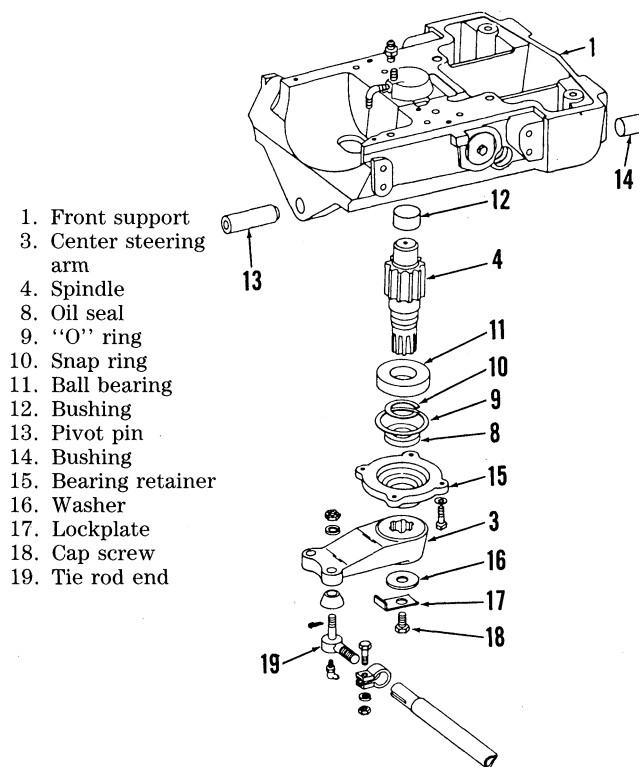
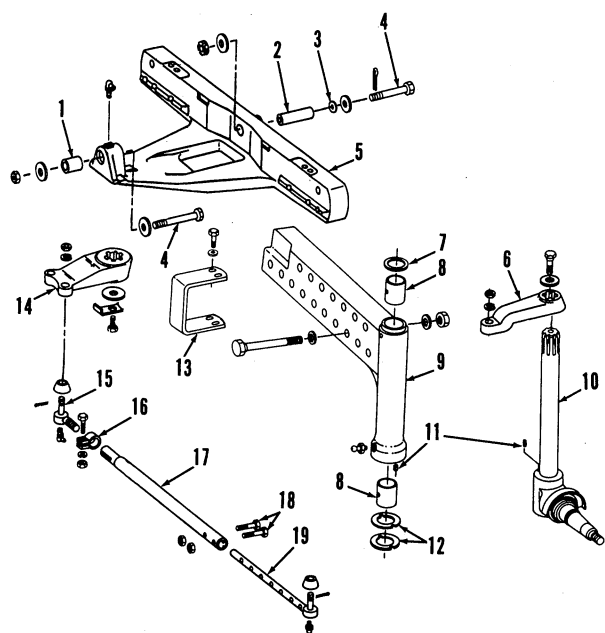

Fig.1—Partially exploded view of front axle support assembly used on 4050, 4250 and 4450 tractors. Support assembly used on 4650 and 4850 tractors is similar.
Fig. 2—Exploded view of adjustable tread front axle assembly.
1. AXLE HOUSING AND PIVOT BRACKET. The front axle attaches to the front support (1—Fig. 1). Clearance between axle pivot pins (13—Fig. 1 and 2—Fig. 2) and bushings (14—Fig. 1 and 1—Fig. 2) should not exceed 0.080 inch (2 mm).
Install front pivot pin flush with rear edge of pin bore in axle. Install shims (3—Fig. 2) on axle front pivot bolt to provide a minimum amount of clearance between front axle and support. Maximum allowable clearance is 0.015 inch (0.38 mm). Tighten nuts on pivot bolts to 220 ft.-lbs. (298 N·m). Tighten tie rod end retaining nuts to 100 ft.-lbs. (136 N·m). Lubricate pivot pins and bushings with multipurpose grease.
2. SPINDLES AND BUSHINGS. The steering arms (6—Fig. 2) are splined to spindles (10) and re-
3. TIE RODS AND TOE-IN. The tie rod outer ends (19—Fig. 2) are adjustable with several holes provided for changing axle width. Tie rod inner ends (15) are threaded to provide adjustment for toe-in. To adjust toe-in, remove bolts (18) and loosen clamp (16). Rotate tie rod tubes (17) to provide 1/8-3/8 inch (3-9 mm) toe-in. Be sure to adjust both tie rods to equal lengths. Tighten clamps and bolts to 35 ft.-lbs. (47 N·m).